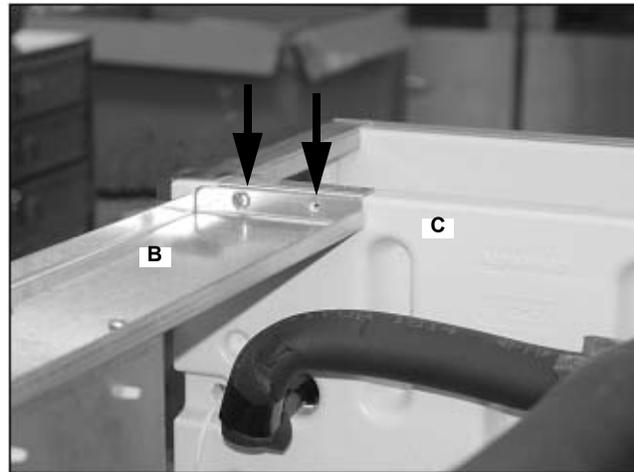

FIGURE 51
55. Attach the support brace (B) to the evaporator bulkhead (C) with 2 Phillips head screws (FIGURE 51).